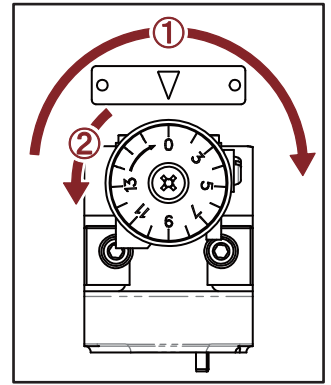

Fig. 7-1
1. Preset the scale of the positioning shelf. (Fig. 7-1)
- ① Turn it by clockwise to the end.
- ② Turn it by counterclockwise at "0".